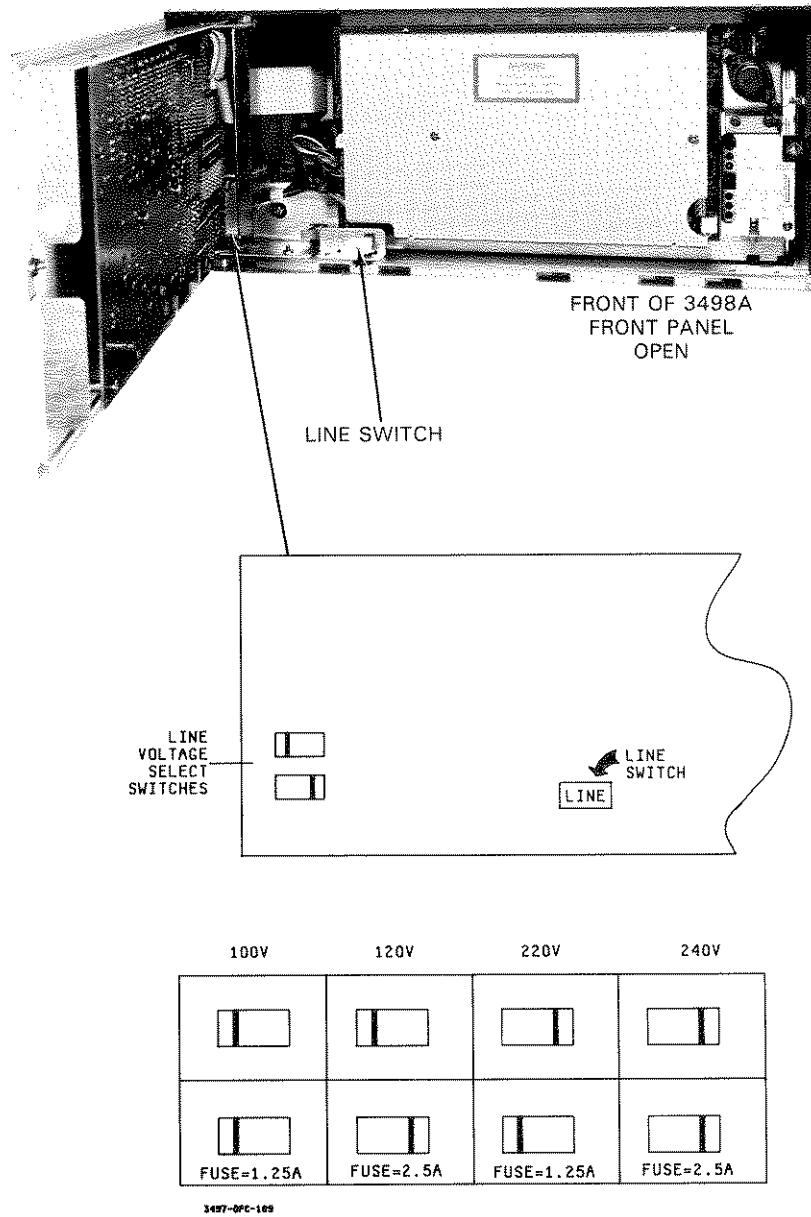

Figure 173. Option 298 - Line Voltage Switch and Fuse Locations
2. Compare the line voltage selector switch positions with those shown in Figure 173. If not correct, set the switches to proper setting.